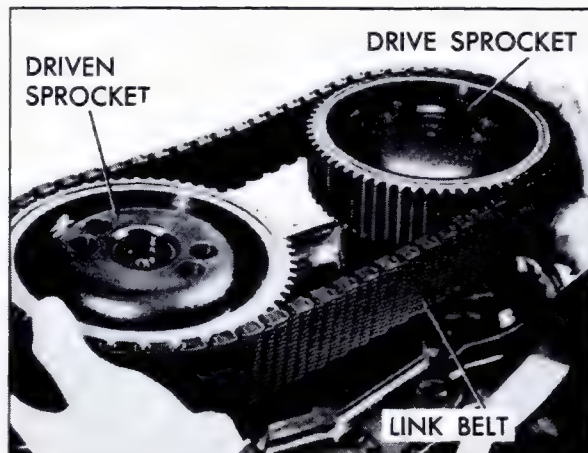

Fig. 7-163 Removing Sprockets and Link Assembly
4. Remove drive and driven sprockets, link assembly, bearings, and shafts simultaneously by alternately pulling upwards on the drive and driven sprockets until the bearings are out of the drive and driven support housings, Fig. 7-163.